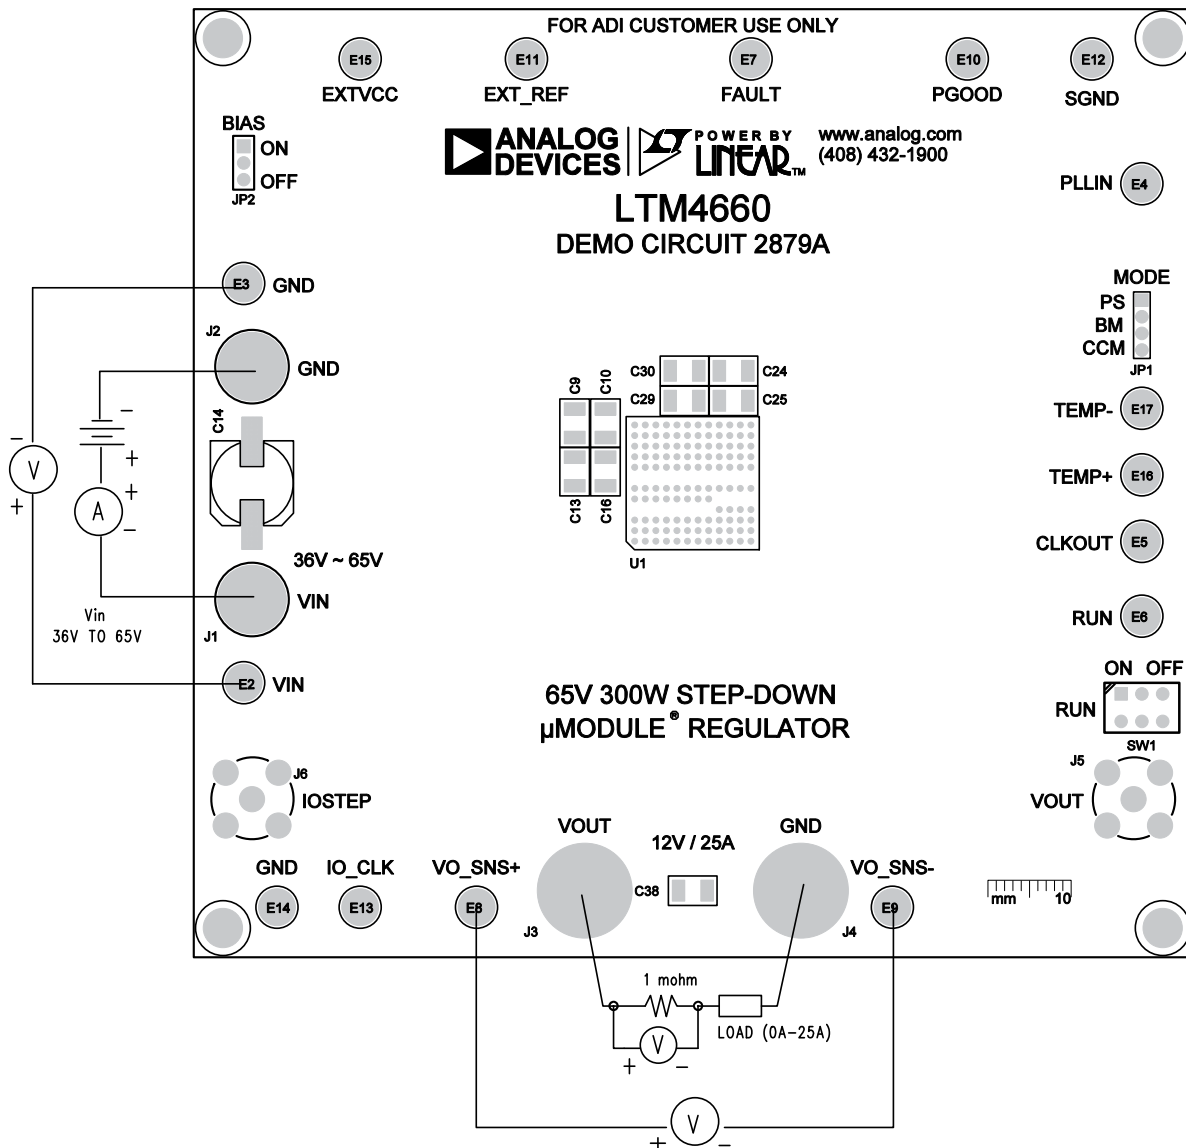

Figure 2. Proper Measurement Equipment Setup
Demonstration circuit 2879A is easy to set up to evaluate the performance of the LTM4660. Refer to Figure 2 for the proper measurement equipment setup and follow the procedure below.
2. Connect the output load between V_{OUT} and GND (Initial load: no load). Refer to Figure 2.